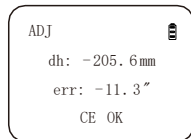

Fig 31
- (7) Now measurement of those 4 points has been finished. Press SET button to confirm the result.(Figure 31) Then press SET button to save and restart.